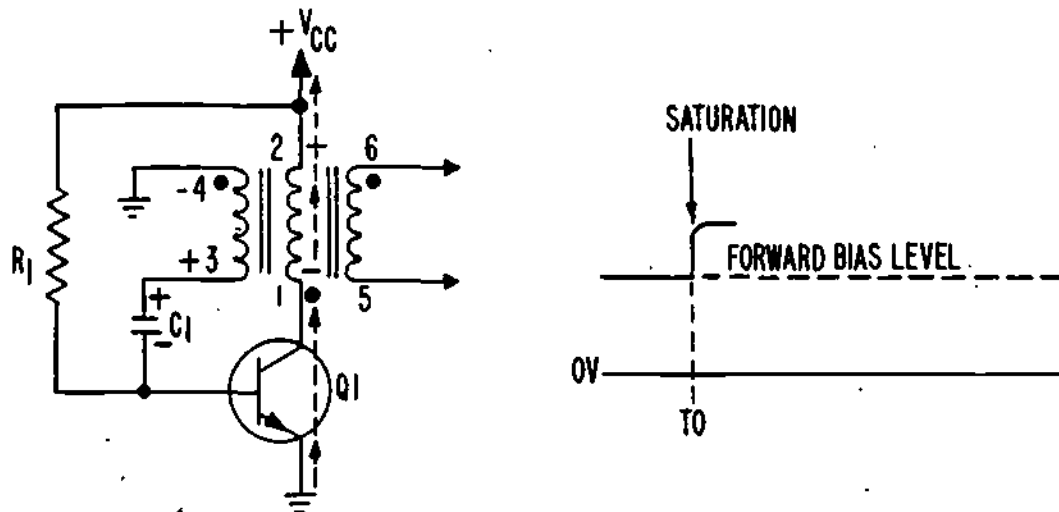

Figure 7
10. The schematic diagram shown in Figure 7 is that of a basic blocking oscillator circuit.